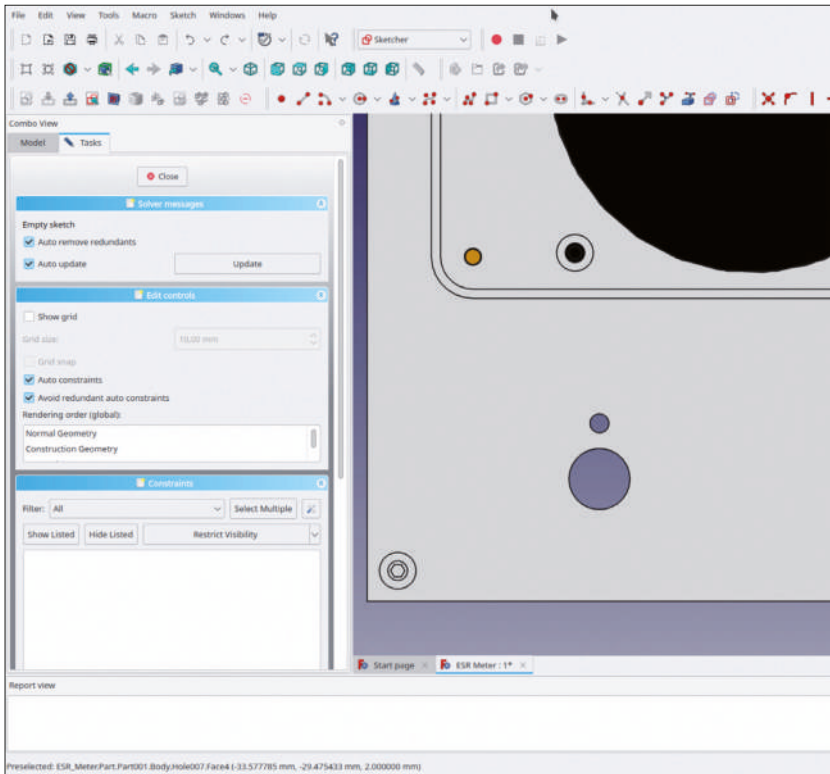

Figure 8-1
4. From the main menu, select 'View | Orthographic view' and 'Sketch | View section' (Figure 8-1).